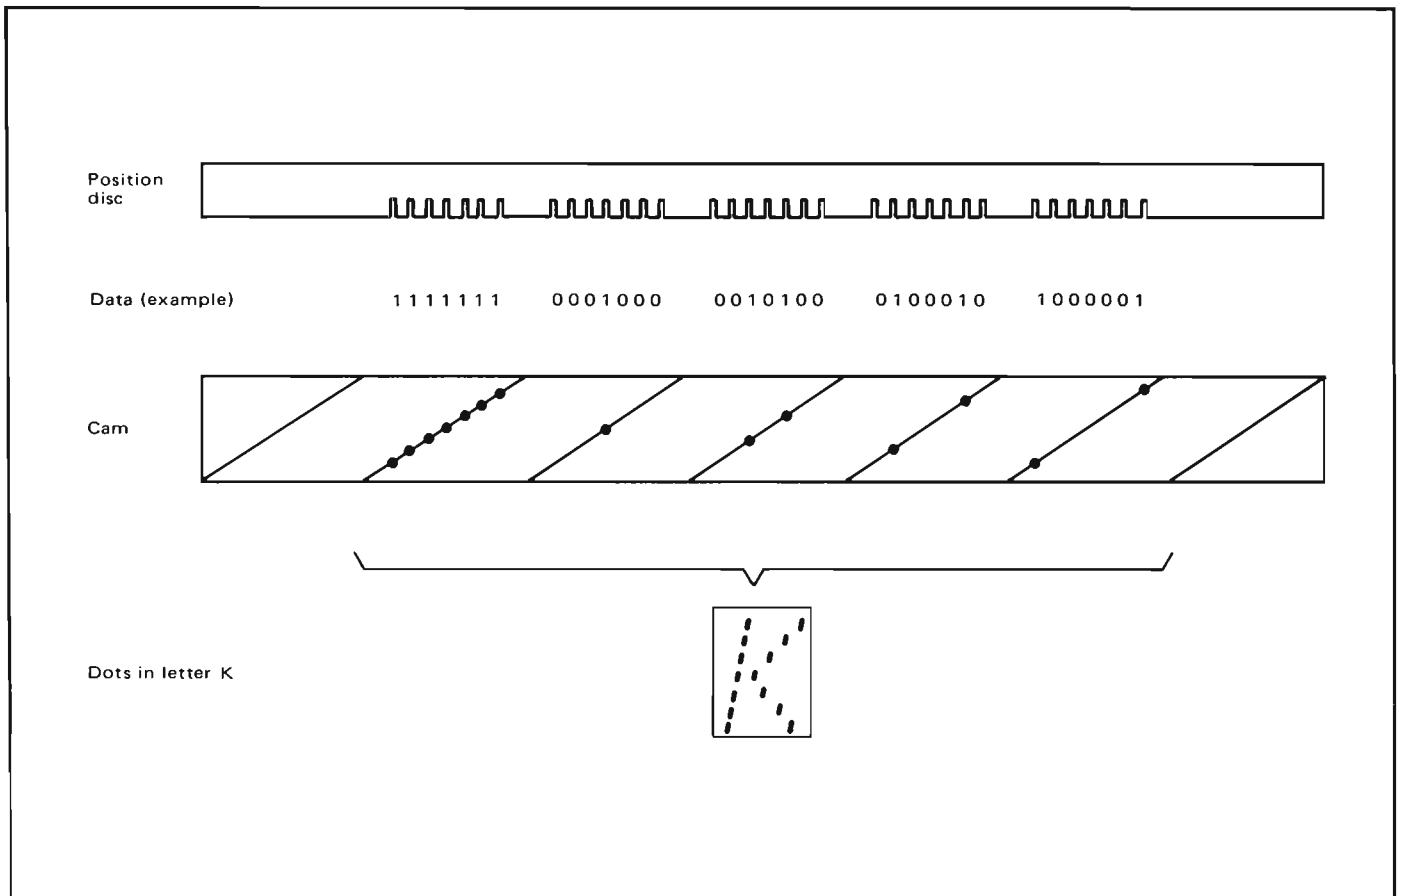

Fig. 6 The cam and position disc peripheries laid out in a single plane
- Printer operation can best be explained by means of a specific example – say the letter K. Fig. 6 shows the cam and position disc peripheries laid out in a single plane with dots representing the letter K.